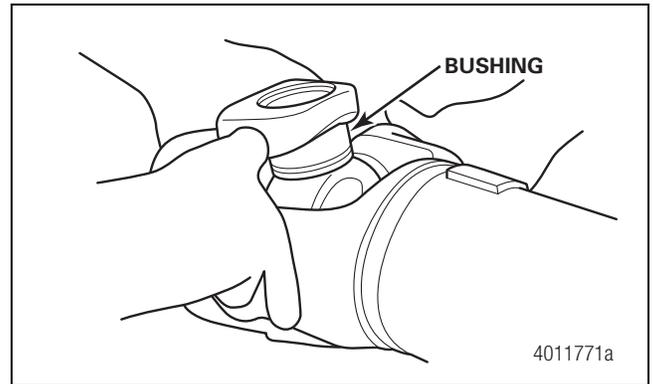

Figure 4.76
- Rotate the assembly 180 degrees (turn it over). Figure 4.76.